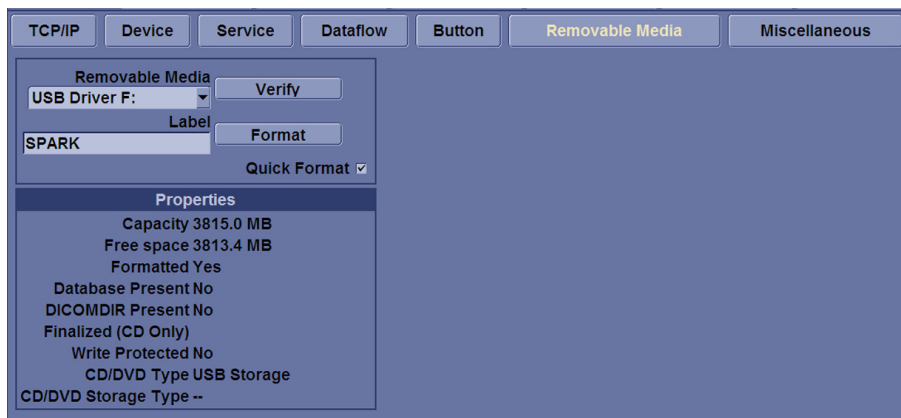

Figure 4-18 Format and Verify Media
- 3.) Enter the label for the media as shown in Figure 4-18. It is best to use all capital letters with no spaces or punctuation marks. Select **Format**.
- 4.) The system displays a pop-up menu, as shown in Figure 4-18 on page 4-26, select **OK** to continue.
- 5.) If desired, verify that the format was successful by returning to **Utility-> Connectivity->Removable Media** and selecting **Verify** as shown in Figure 4-18.